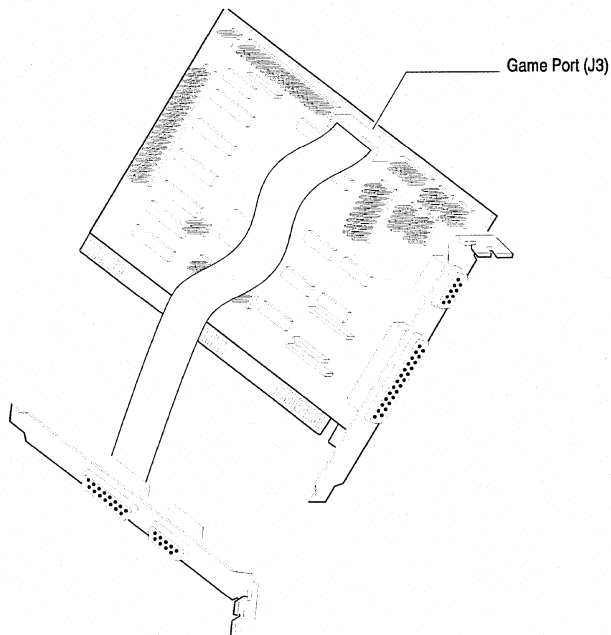

fig. 5-2
2. Insert the 15-pin connector on the game port cable to the game port connector (J3) on the multi-function I/O card (fig. 5-2). Make sure the colored edge of the cable is aligned to pin 1 of the J3 connector.